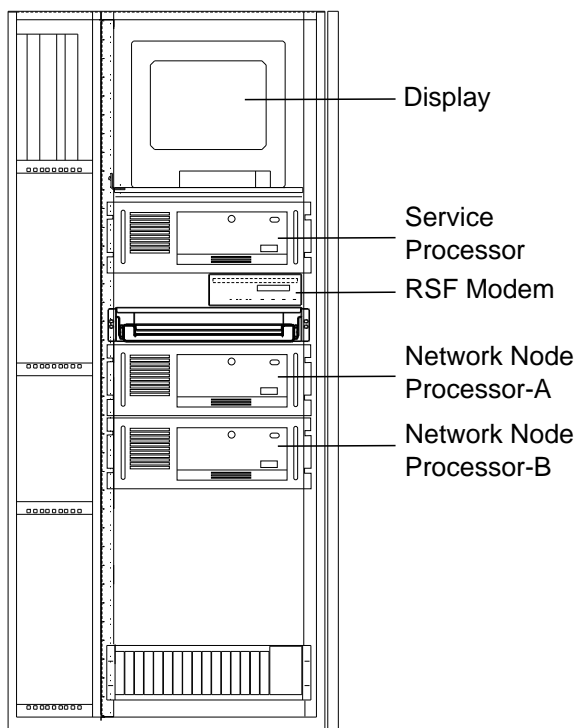
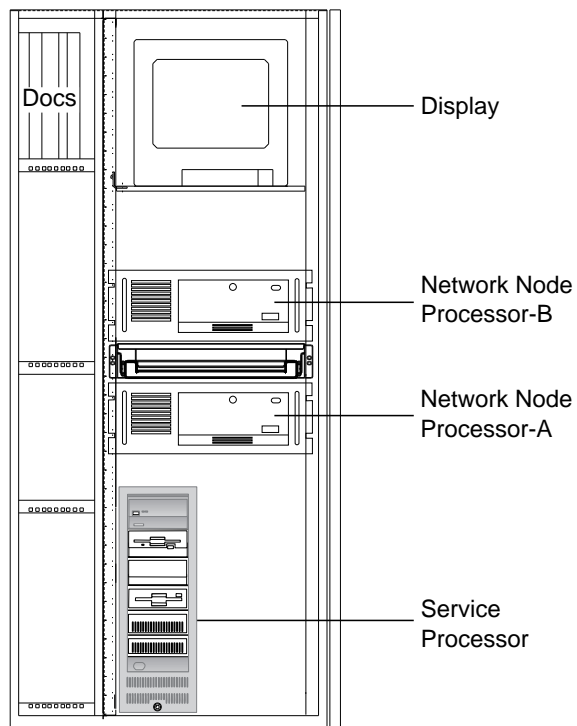

Figure 1. NNP-A installed with SP 7585.
Figure 4. NNP-A installed with SP 9585.
- \_\_\_ 2. Locate the location to install the NNP-A in the Controller Expansion (Refer to Figure 1 on page 6 to Figure 4 on page 6).